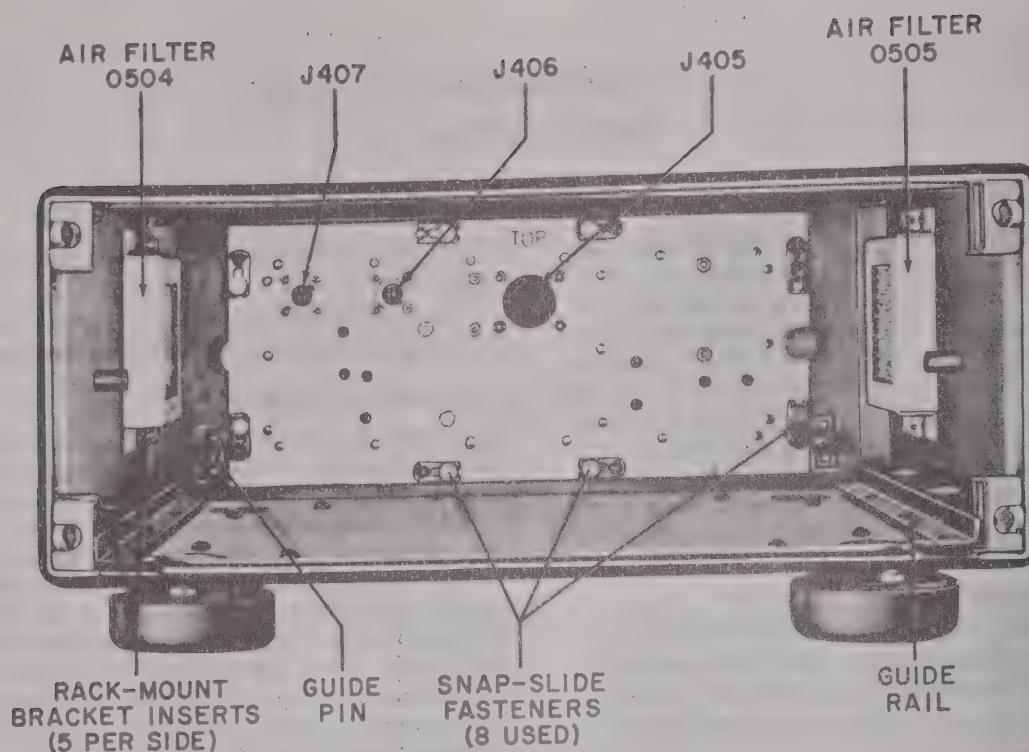
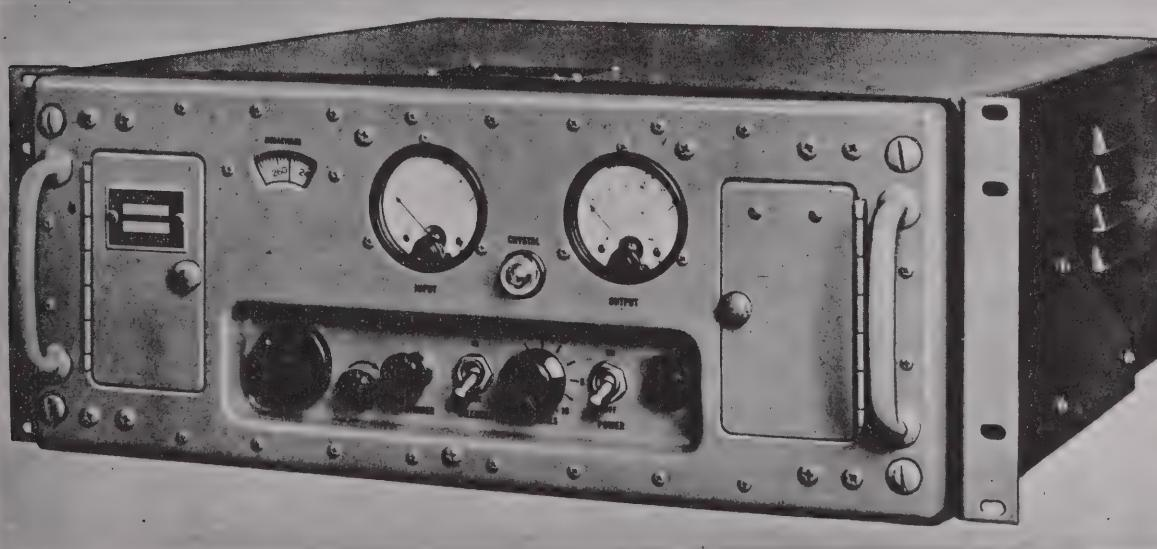

Figure 3-3. Interior of Cabinet with Chassis Removed
Figure 3-4. Radio Receiver R-482/URR-35, Relay-Rack Mounting Brackets Attached and Shockmounts Removed
(2) RELAY-RACK MOUNTING.—If the receiver is to be mounted in a standard 19-inch relay rack, it will be necessary to remove the four shockmounts from the bottom of the cabinet and to attach the two angle brackets provided to the sides of the cabinet; see figure 3-4. The shockmounts can be taken off by merely removing the bolts in the corners of their flange plates. The angle brackets are symmetrical in shape and are attached, one to each side of the cabinet, by means of No. 8-32 x 1/2-inch long Phillip's-head machine screws. Five holes in each bracket line up with five tapped inserts in each side of the cabinet; see figure 3-3. (The required screws will be found threaded into the tapped holes in the cabinet.) Removal of the shockmounts will also cause detachment of the phosphor-bronze grounding strap, which is ordinarily connected between one of the shockmount mounting screws and the 5/16-inch diameter cabinet mounting bolt which drops through the hollow core of the shockmount. This strap will not be needed for relay-rack mounting, but should be put in safe keeping for possible future use.